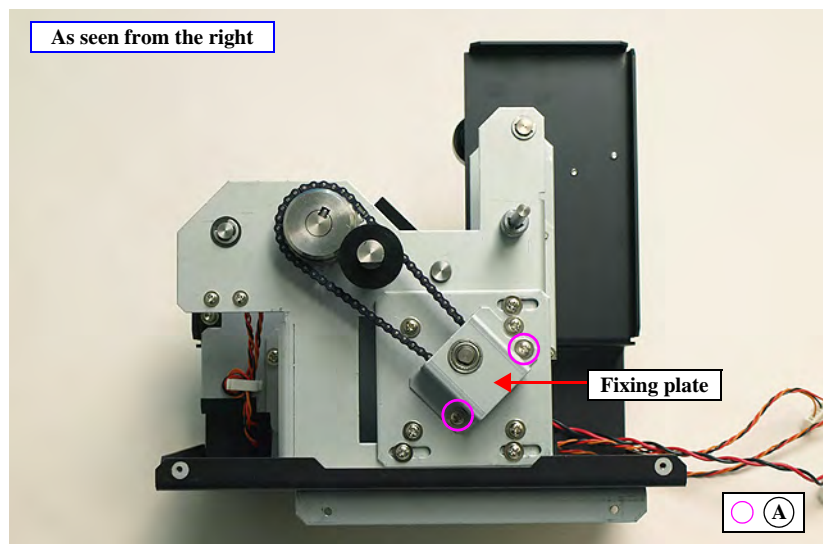

Figure 4-163. Removing the Fixing plate
4. Attach the Fixing plate. *See Figure 4-163.*